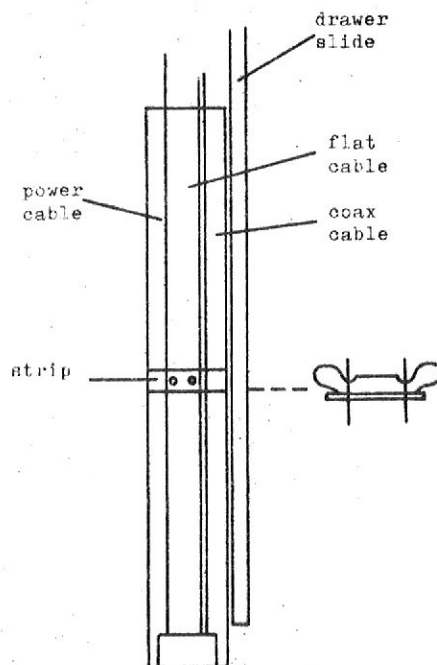

Figure 10-2 CABLE CONNECTIONS
1.3 INTERFACE CONNECTIONS (figure 10-2)
1. Refer to the figures 10-2 and 10-3, and install the interface cable.
Interface cable and power cable must be fastened as shown in figure 10-2.
1.4 POWER CONNECTION (see fig. 10-2 and 10-3)